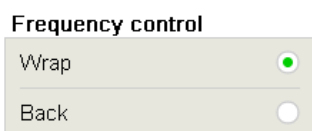

Figure 160
**Frequency control:** Movement of the test frequency when selecting the frequency ◀/▶ buttons (Figure 160). Choose between: